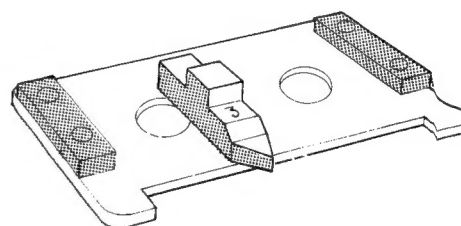

Fig. 4.11 Tandberg Adjustment Plate with Tool No. 3.
**Adjustment of erase head made by Tandberg.** Insert the Tandberg Adjustment Plate and move the mounting plate inwards. Keep the mounting plate in position with one hand. Place Tool No. 3 on the Adjustment Plate according to fig. 4.11.